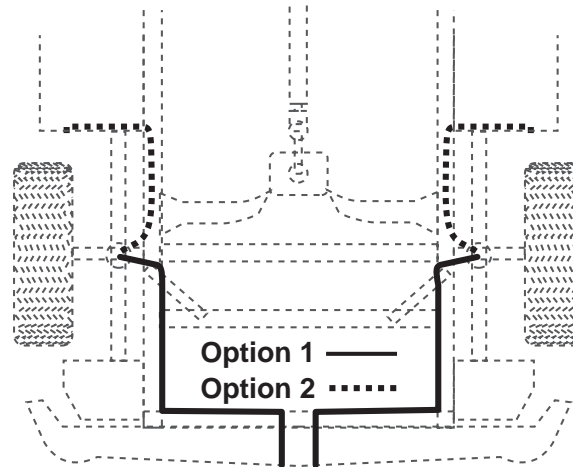

fig. 20
6. Route the air line along the frame to the air fitting on the air spring (fig. 20). Keep AT LEAST 6" of clearance between the air line and heat sources, such as the exhaust pipes, muffler, or catalytic converter. Avoid sharp bends and edges. Use the plastic tie straps to secure the air line to fixed, non-moving points along the chassis. Be sure that the tie straps are tight, but do not pinch the air line. Leave at least 2" of slack to allow for any